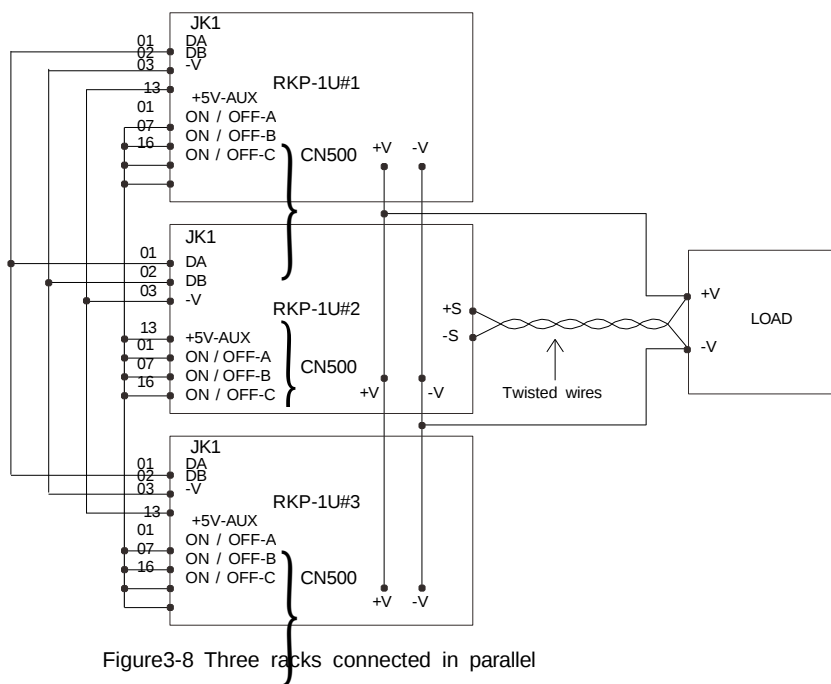

Figure3-8 Three racks connected in parallel
- ⊗ Parallel the racks before connecting to the load (refer to Figure 3.8). Do not connect each rack to the load separately!
- ⊗ The control signals DA, DB, -V should also be connected in parallel. (refer to Figure 3.8)
- ⊗ Twisted wires should be used for the wiring of +S and -S. To avoid the interference, the twisted wires should not touch the load wires. (refer to Figure 3.8)